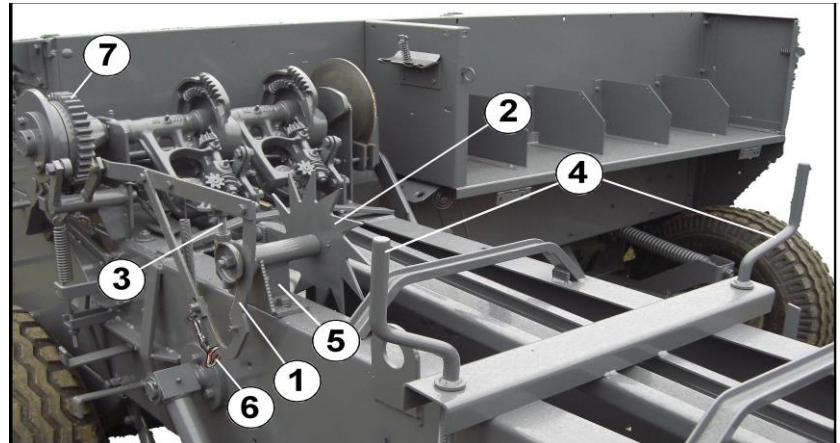
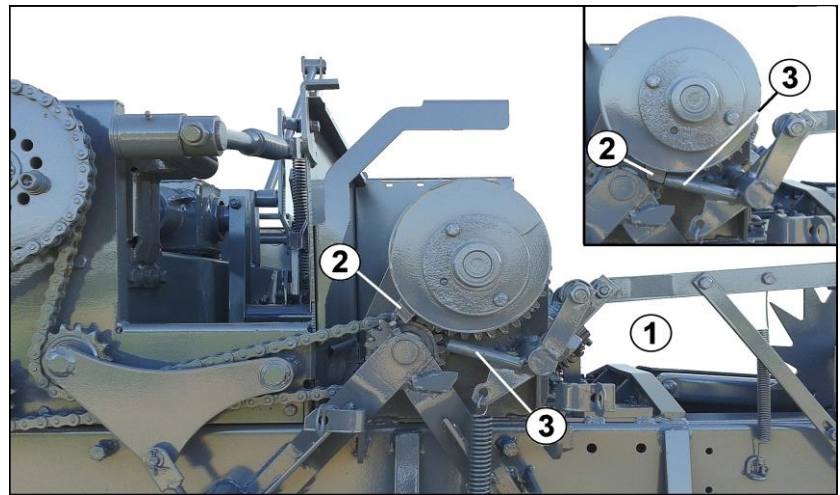
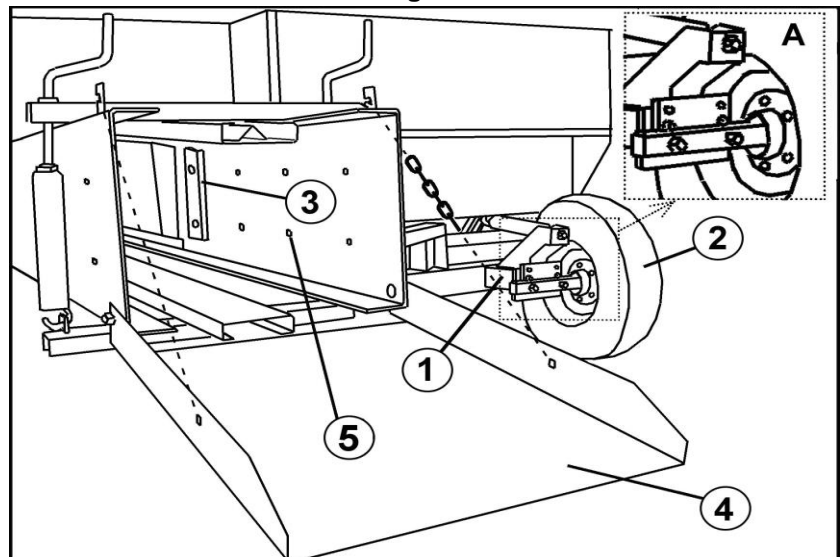

Fig. 4
Fig. 14
Fig. 25
2. Variation of shape of arch lever (no. 1 Fig. 4). Its shape is perfect when all its bent side is located at the same distance from the rotation fulcrum (no. 1 Fig. 14). To avoid arch deformation, never try to set the arch lever in its rest position after the binding device has been connected.
3. Axis of the trip lever (no. 3 Fig. 14) is blocked in its bushing (due to gripping).
4. Wrong position of the metering wheel support (no. 5 Fig. 4). This may determine incomplete run of the arch lever and therefore anomalous length of the bale.
The correct position of the metering wheel support is the one in which the return movement to the arch lever starting position (no. 1 fig.4), the maximum distance between the external profile of the mentioned arch lever teeth and the external profile of the teeth of the reel connected with metric wheel 2 fig.4 must be between 2.5 and 3 mm. Check that, being arch lever 1 fig.4 in its resting position, the top of trip lever 3 fig. 14 fully matches the surface of dog trip 2 fig.14. It is possible to adjust the position of the metering wheel support by using its own fixing bolts.
To increase the density, straw-stop wedges (no. 3 Fig. 25) are fixed in the respective holes of the compression chamber (no. 5 Fig. 25). Usually density is adjusted by using handles 4 Fig. 4.
When there is humidity, during evenings and nights, it is necessary to reduce the pressure induced by unscrewing the handles (no. 4 fig.4).